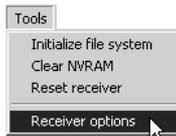

Figure 4-12. **Tools->Receiver Options**
2. Click **Tools->Receiver Options** (Figure 4-12).